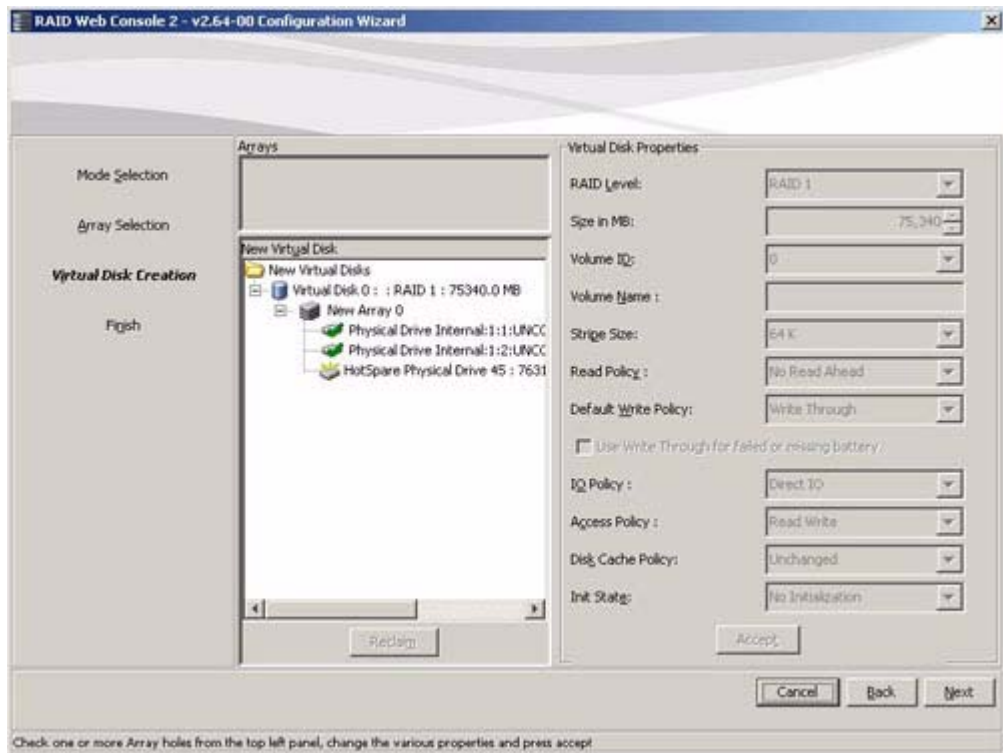

Figure 47. Manual Configuration – New Configuration
8. Click **Accept** to accept the configuration of the new virtual disk. See Figure 47.